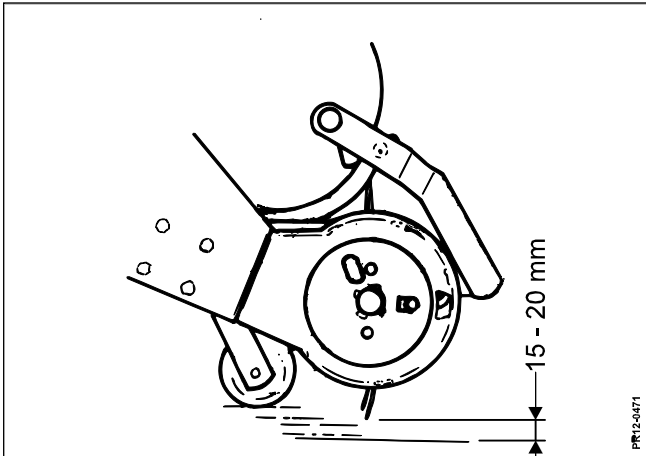

Fig. 3-7
- Fig. 3-7** The height of the rollers under the pick-up can be adjusted. Adjust the height so that there is 15 – 20 mm distance between the point of the pick-up tines and the ground.